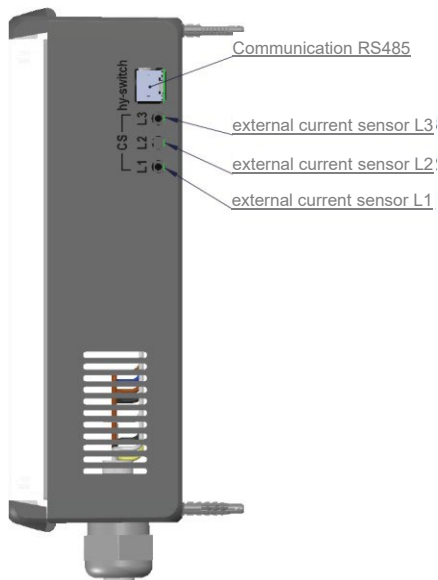

Fig. 10: External component connections for the external current sensors (jack plug) and the communication cable (RJ45)
8. If you want to use external current sensors, install them and connect the cables to the CS connections on the side: L1, L2, L3 (see Fig. 10).